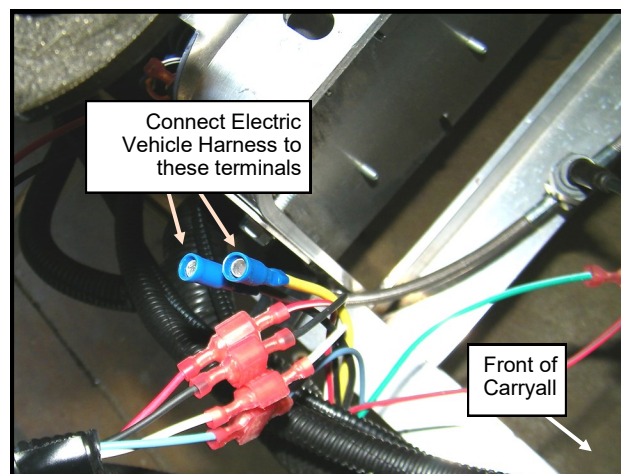

Figure 8.2: Vehicle connection (Elec. Vehicle Shown)
- 8.2 Connect the two male bullet terminals to the female bullets under the seat. Red to Yellow and Black to Black (**Figure 8.2**).